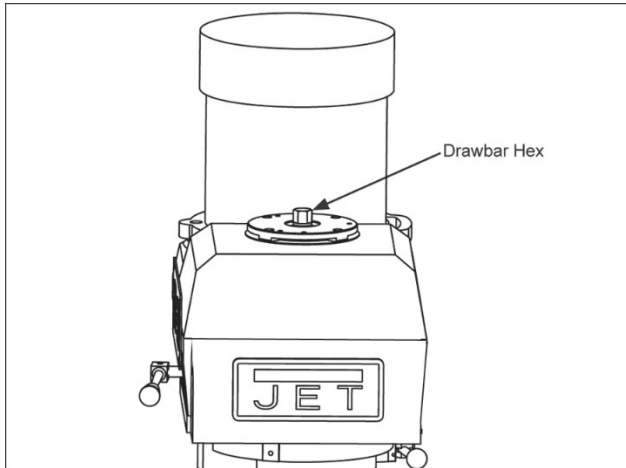

Figure 14
Referring to Figure 14:
- Using the provided wrench, loosen draw bar two or three turns (turn counterclockwise) using draw bar hex (Figure 14).